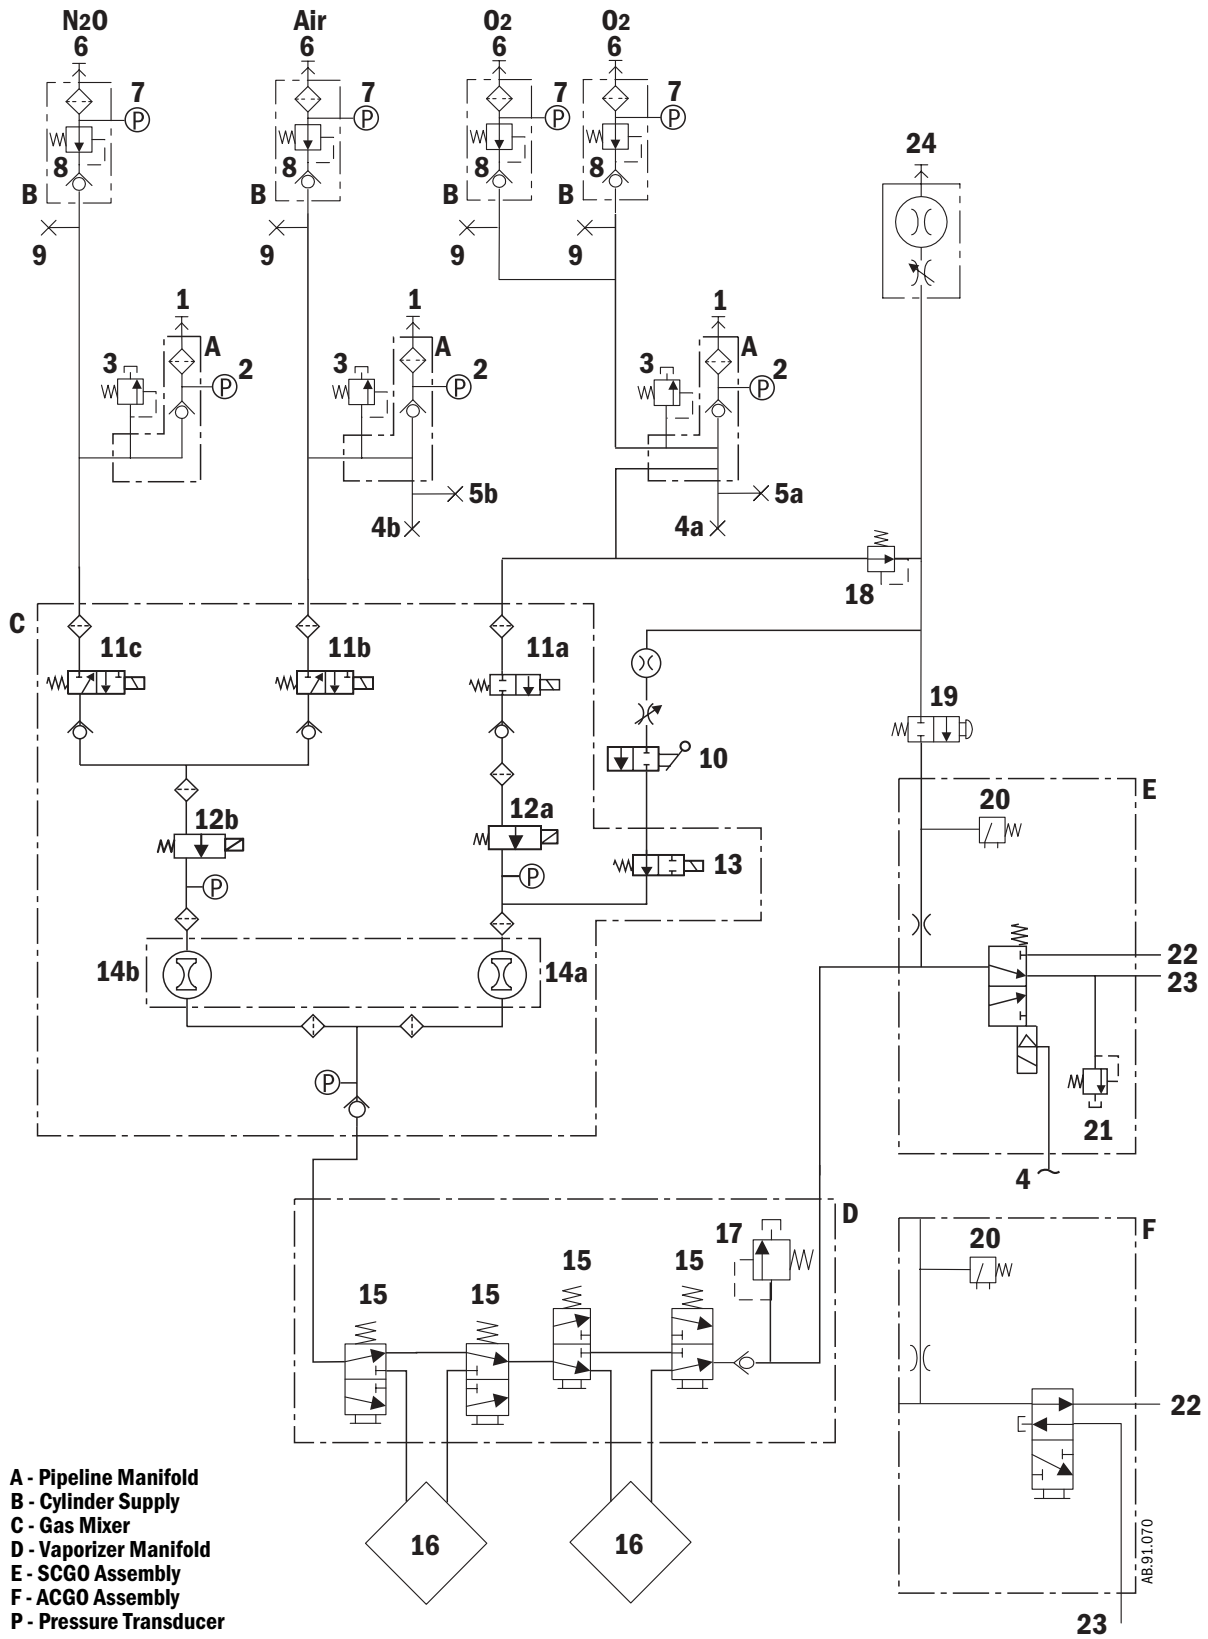

Figure 2-20 • Pneumatic circuit
2.10.1 Overview Refer to Figure 2-20.